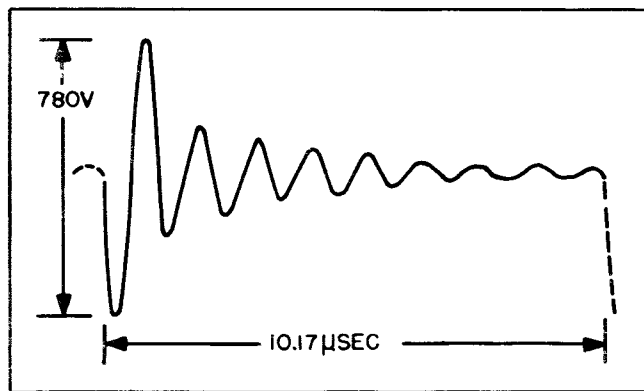

Figure 6-5. Driver Output Waveform
b. Adjust tuning slug of T111 to obtain nine complete cycles in the damped wave train, as viewed on the synchroscope. (See figure 6-5.)